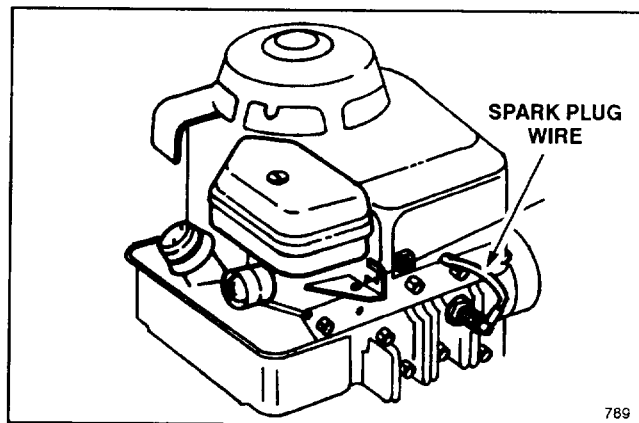

Figure 16
1. Stop engine and pull wire off spark plug (Fig. 16).
1. Stop engine and wait for engine to cool. Pull wire off spark plug (Fig. 16).
1. Stop the engine. Pull the wire off the spark plug (Fig. 16).